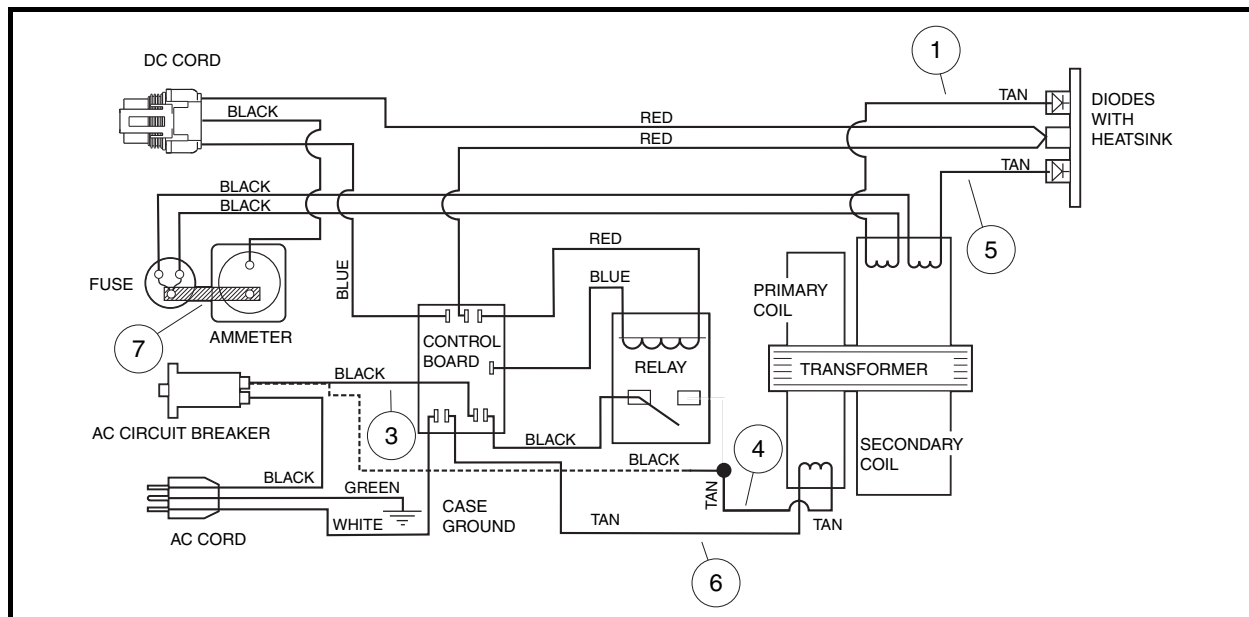

Figure 9-21 IQ Plus Onboard Charger Wiring Diagram (Relay Bypassed)
- 4.1. To bypass the relay, remove the black wire (3) from the AC circuit breaker and disconnect the black wire (4) from the relay. Connect the black wire (4) to the AC circuit breaker (**Figure 9-21, Page 9-30**). **See following DANGER.**